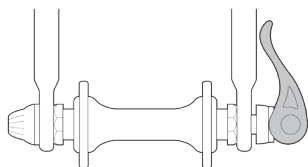
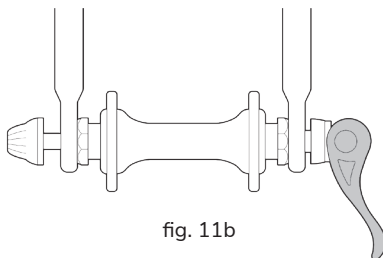

fig. 11a
fig. 11b
2. If your bike has cam action front wheel retention (Quick release mechanism), move the cam lever from the locked or CLOSED position to the OPEN position (fig 11a, fig 11b). Then go to step (4).
1. If your bike has cam action (Quick Release) front wheel retention, move the cam lever so that it curves away from the wheel (fig. 11b). This is the OPEN position. If your bike has through bolt or bolt-on front wheel retention, go to the next step.
3. If you have a traditional cam action mechanism, holding the cam lever in the OPEN position with your right hand (fig. 11b), tighten the tension adjusting nut with your left hand until it is finger tight against the fork dropout (fig. 8a). If you have a cam-and-cup system: the nut and cup will have snapped into the recessed area of the fork dropouts and no adjustment should be required.
(a) With a cam action system (Quick Release), move the cam lever upwards and swing it into the CLOSED position (fig. 11a). The lever should now be parallel to the fork blade and curved toward the wheel. To apply enough clamping force, you should have to wrap your fingers around the fork blade for leverage, and the lever should leave a clear imprint in the palm of your hand.